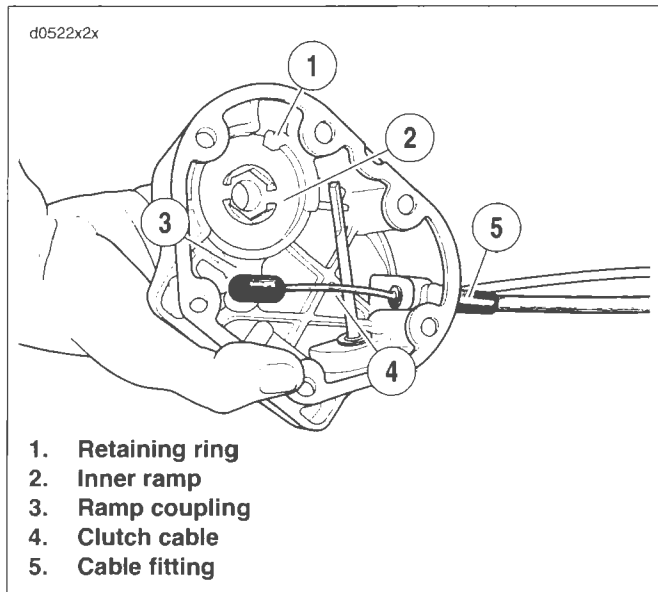

Figure 2-120. Clutch Cable Connection
4. See Figure 2-120. Note position of retaining ring opening. Retaining ring opening must be positioned in approximately the same location during assembly. Remove retaining ring (1).
5. Pull inner ramp (2) and coupling (3) out of side cover. Hold inner and outer ramps together to keep balls from falling free.
6. Rotate the inner ramp to a position which will allow the coupling to be disconnected from the inner ramp lever arm. Disconnect coupling from inner ramp. Disconnect cable end (4) from coupling.
7. Back out threaded cable fitting (5) from side cover.
1. See Figure 2-120. Install **new** O-ring on end of clutch cable threads. Thread clutch cable fitting (5) into side cover. Do not tighten at this time.
2. Connect cable end to coupling (3). Rotate ramps for best access and install coupling on inner ramp (2). Place ramp assembly in position in side cover.
3. Install retaining ring (1). Position retaining ring opening to the right of the outer ramp tang (the stop that prevents rotation).